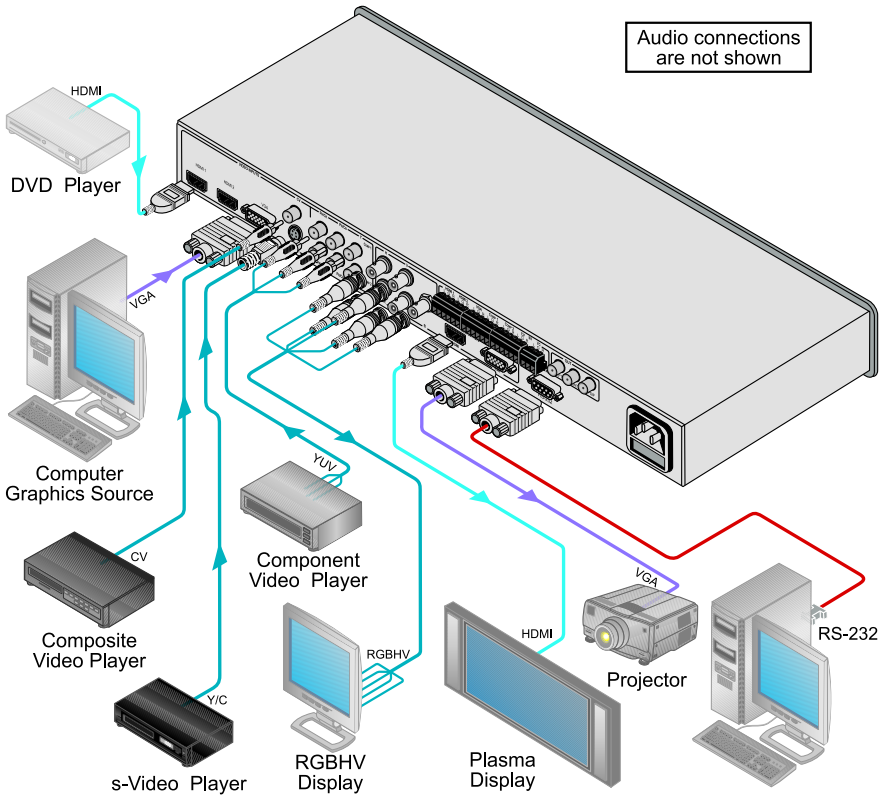

Figure 2: Connecting the VP-436 Presentation Switcher / Scaler
To connect¹ your **VP-436**, as illustrated in the example in Figure 2, do the following:
6. Connect the audio input signals to the AUDIO IN terminal block connectors, as required (not shown in Figure 2).
10. Connect the audio output signals to the OUT stereo analog audio acceptor and/or the digital audio acceptor, as required (not shown in Figure 2).
11. Connect the power cord³ (not shown in Figure 2).